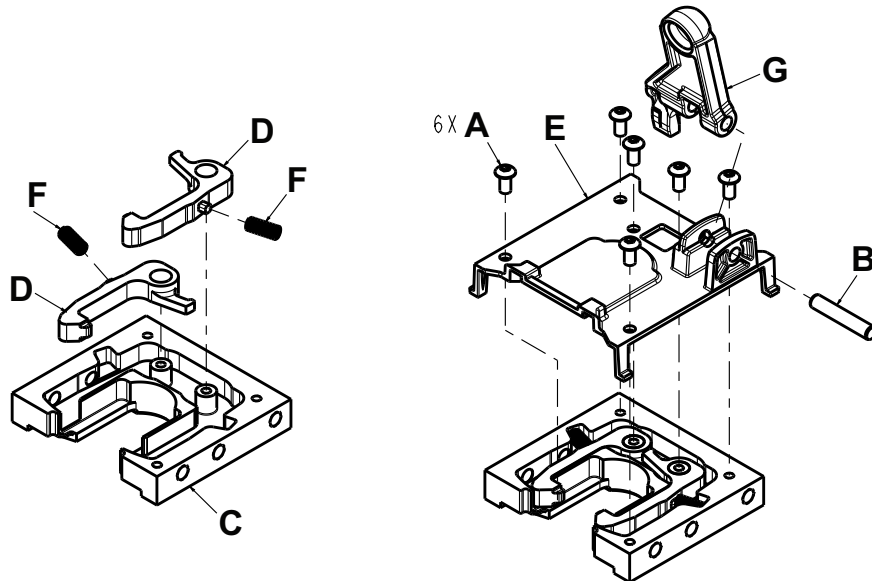

Figure 6 – Replacing the foot end lock pawl
2. Using a 1/8" punch, push the dowel pin (B) out of the release latch arm (G) (Figure 6). Save the dowel pin.
3. Using a T25 Torx driver, remove the six screws (A) that secure the pivot bracket to the foot end interface (C) (Figure 6). Save the screws.
4. Remove and discard the lock pawl (D) (Figure 6).